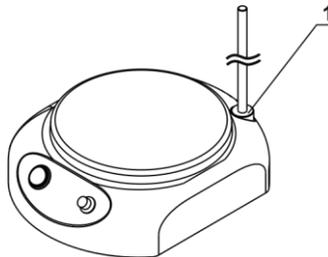

Figure 1. Detachable stand
- 4.4. **Detachable stand installation.** Remove the screw on the fixing socket at the stirrer back (fig. 1/1) and retain for future use. Screw the part of the stand with the counter-nut into the fixing socket and secure with the counter-nut. Screw in the second part of the stand into the attached first part.